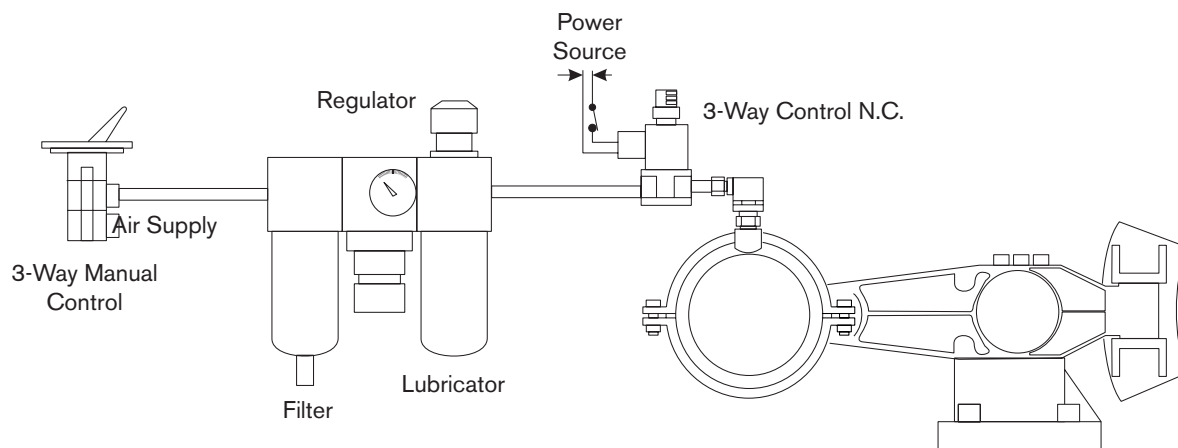

Figure 9
**NOTE:** Maximum operating pressure is 6.9 bar [100 psi] (See Figure 9).
This mode is for occasional duty, non-cyclic applications only. A hold-off pressure of 5.2-6.9 bar [75-100 psi] is used to compress the spring inside the Actuator canister. A control signal is used to release the hold-off pressure, thus applying full spring engaged torque to the brake (See Figure 9).